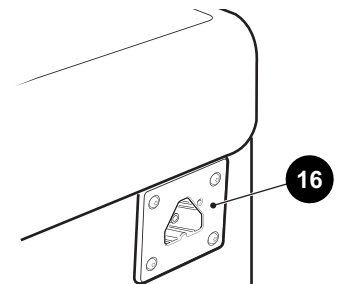

Figure 7 Charger Receptacle
Connect the charger cord to this charger receptacle (16) to charge the batteries (Figure 7).